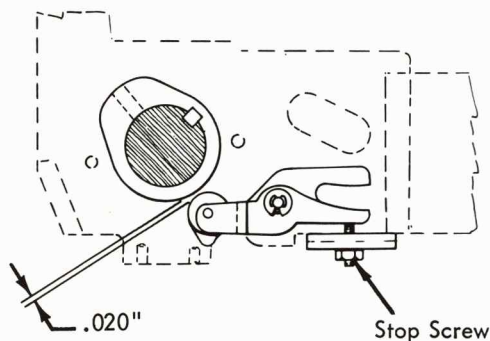

FIGURE 97.2 Print Cam Follower Stop Screw
7. **Print Cam Follower Stop Screw** - Adjust the cam follower stop screw so that the print cam follower roller clears the print cam by .020" when the machine is at rest (Fig. 97.2). This clearance ensures that the rocker will re-store fully on every cycle.